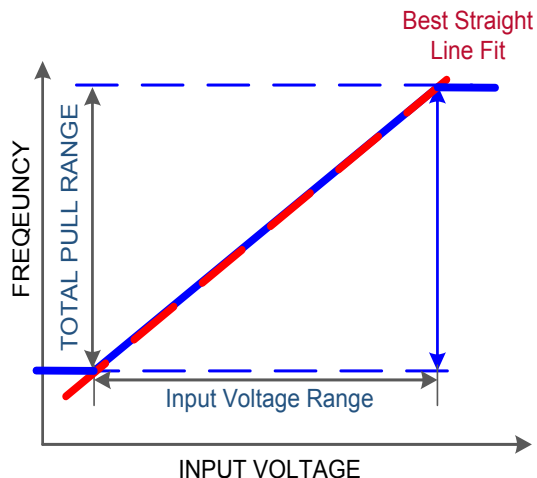

Figure 38. Typical SiTime VCTCXO Linearity
In any VCTCXO, there will be some deviation of the frequency-voltage (FV) characteristic from an ideal straight line. Linearity is the ratio of this maximum deviation to the total pull range, expressed as a percentage. Figure 38 below shows the typical pull linearity of a SiTime VCTCXO. The linearity is excellent (1% maximum) relative to most quartz offerings because the frequency pulling is achieved with a PLL rather than varactor diodes.